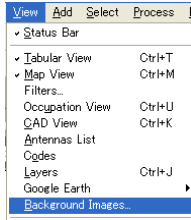

Figure 2-45. Add a Vector/Raster Image as Background
1. Click **View ▶ Background images** (Figure 2-45).